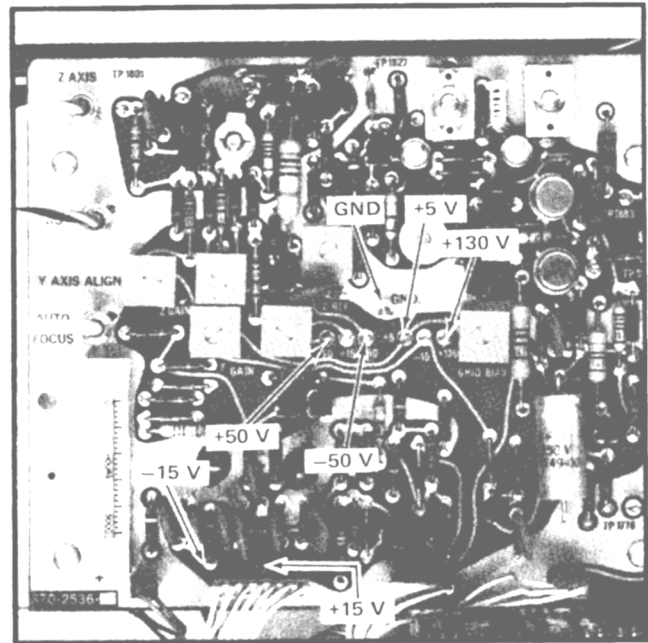

Fig. 2-2. Location of the Low Voltage Test Points
a. Connect the precision DC voltmeter between TP -50 V and TP GND SENS on the Z-Axis circuit board (see Fig. 2-2).
Check—Table 2-1 lists the low voltage supplies and their tolerances. Check each supply with the precision DC voltmeter for voltage output within the given tolerance. Connect meter ground lead to GND (Pin 1) P1896. The low-voltage supplies may also be checked at locations as shown in Fig. 2-2.